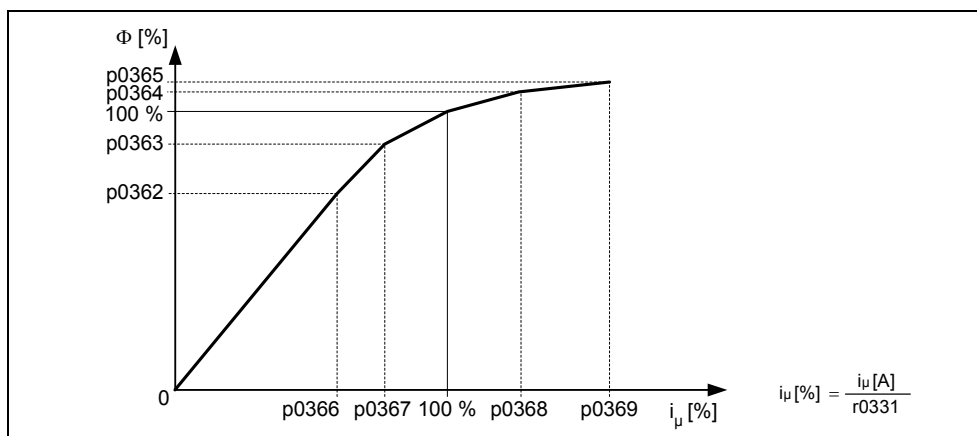

Fig. 6-16 Magnetizing characteristic
- Magnetizing characteristic (refer to Fig. 6-16) → p1910 = 3
In addition to the equivalent circuit diagram data, the motor magnetizing characteristic can be determined using the motor data identification routine (p1910 = 3) (refer to Fig. 6-16). If the motor - frequency converter combination is operated in the field-weakening range, then this characteristic should be especially defined for closed-loop Vector control. Using this magnetizing characteristic, in the field-weakening range, the frequency converter can more precisely calculate the field-generating current - therefore achieving a higher torque accuracy.